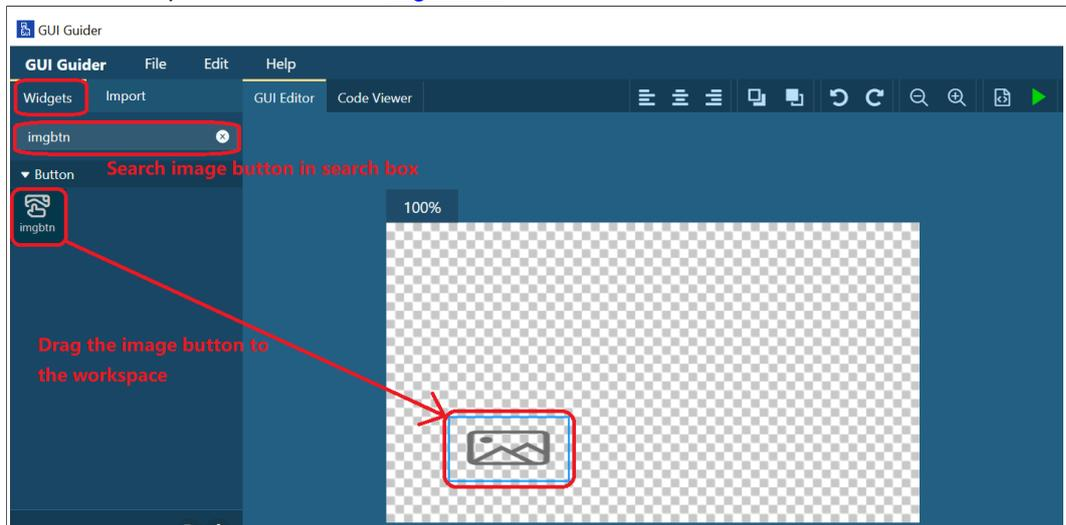

Figure 13. Add image button to workspace
1. Type **imgbtn** in the search box of the **Widgets** tab, and then drag the image button to the workspace, as shown in Figure 13.